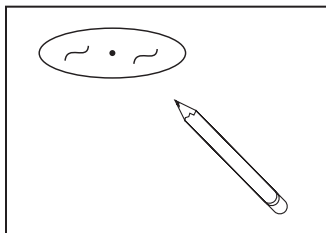

Figure 2
Step 2. Locate center of proposed opening on ceiling and use template to mark and accurately cut a 4-3/8" opening (Fig. 2).